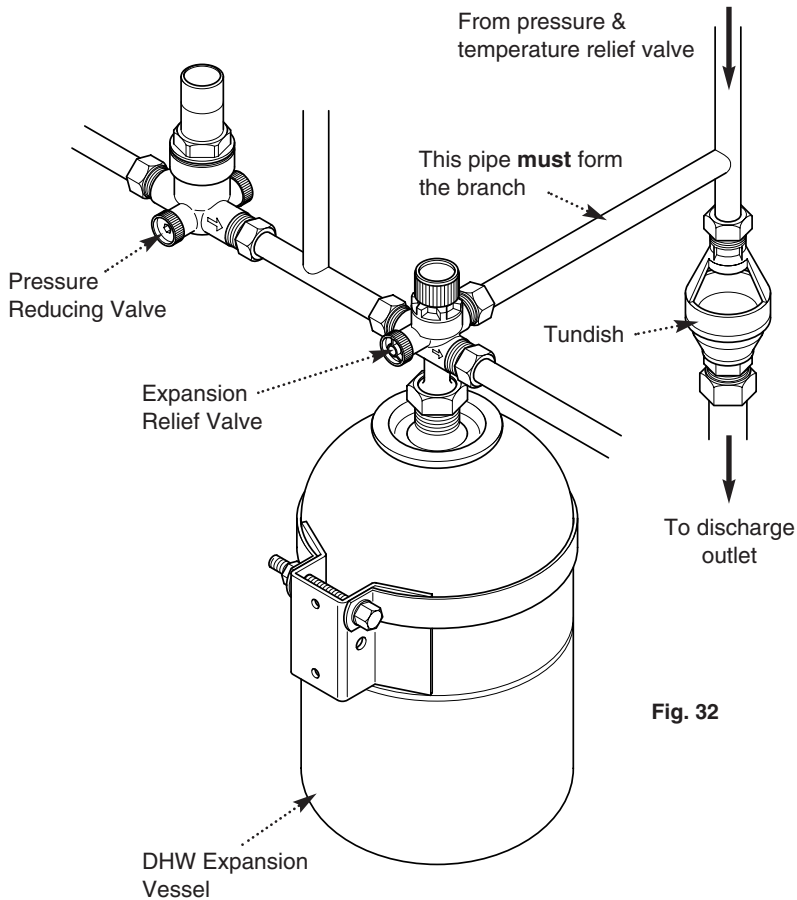

Fig. 32
8.6 Unvented Hot Water Storage (Fig. 32)